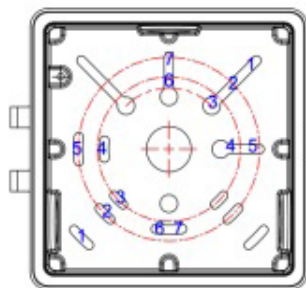
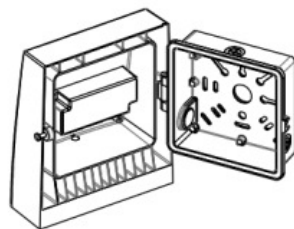

FIG. 1
FIG. 2
1. Open the back box by using philips screw driver (FIG.2) confirm junction box size PRIOR to removing the gasket material for the application (FIG. 1). ONLY remove the gasket material needed for the installation. Mount back box to junction box via supplied hardware or lag mount. Utilize any junction box pairings for lag mount (Example: 5-5). Lag mount hardware provided by others.